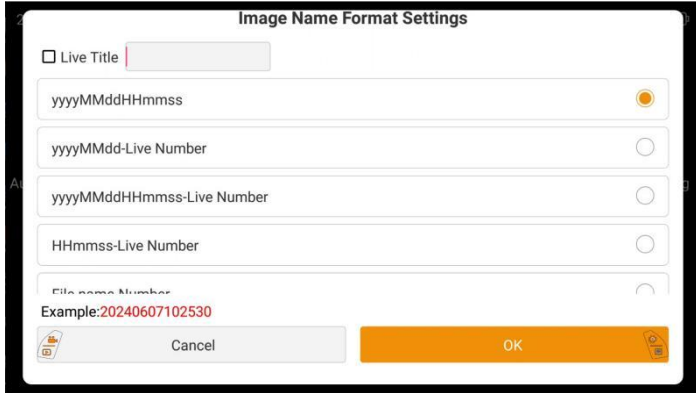

Figure 8-28
3. Click the icon in the upper left corner, click the icon in Network, click the icon in FTP, click New, select FTP, enter as shown in Figure 8-28, click to enter, and wait for the connection.
Touch the icon [Image Name Format Settings] in the main interface of system setting to set the image name format (see Figure 8-28) :